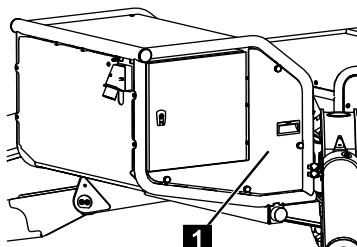

Fig. 186
2. Unscrew the cover (Fig.186/1).